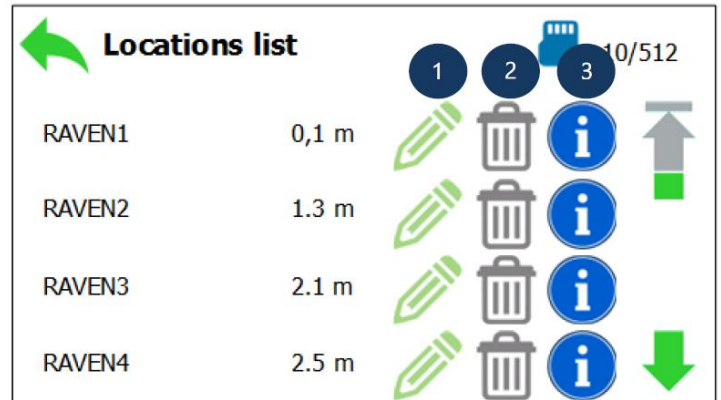
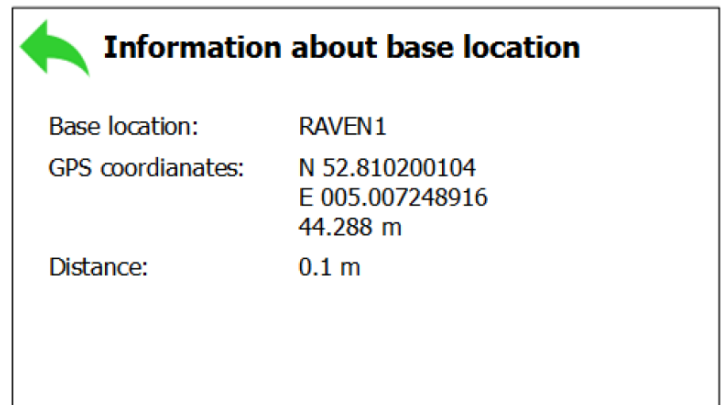

Figure 10 Locations list
Figure 11 Information about base location
By pressing the manage button (in the middle) at the home screen, the screen shown in Figure 10 will appear. At this screen, you are able to manage the stored base locations. By pressing the icon with the pencil (1), the name of the stored location can be changed. By pressing the trash bin (2), the location can be deleted after confirming this step. By pressing the information button (3), information about the location will be displayed like it is shown in Figure 11.